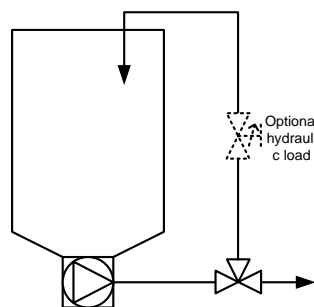

Figure 4: Bypass flow with 3 way valve
- Bypass flow with 3 way valve (Figure 4) \Rightarrow same pump flow for process